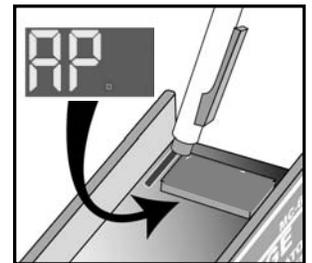

Figure 19 - Amp Manager mode.
1. **ACTIVATE-HOLD** when display cycles to “AP” (See Figure 19. PrA Mode 09). “AP” will be followed by “OFF” code. **RELEASE**.